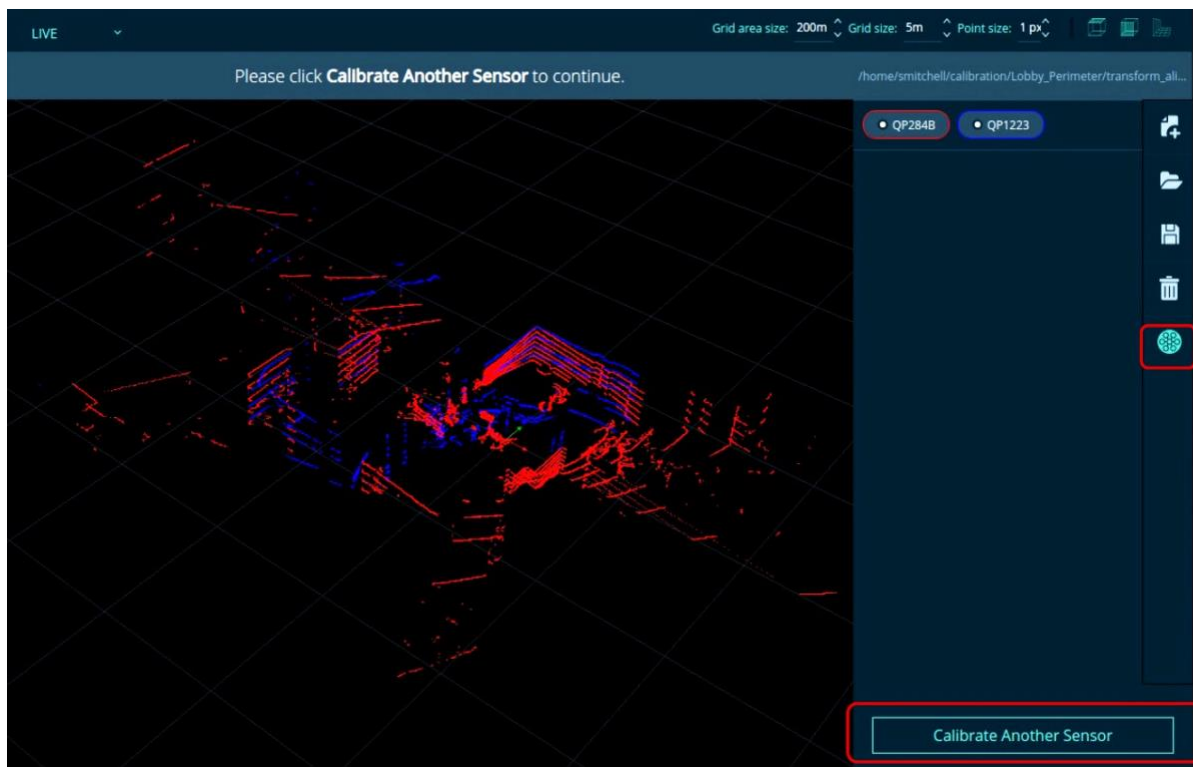

Figure 61. Calibrate Tab: Fused Cloud Icon Colors Points for Each Sensor
- A differentiated cloud, where sensor buttons are outlined in the color of their visualized points, making it easier to spot an incorrectly calibrated sensor. See Figure 61. Calibrate Tab: Fused Cloud Icon Colors Points for Each Sensor.
- a. Click the **Calibrate Another Sensor** button. See Figure 61. Calibrate Tab: Fused Cloud Icon Colors Points for Each Sensor.